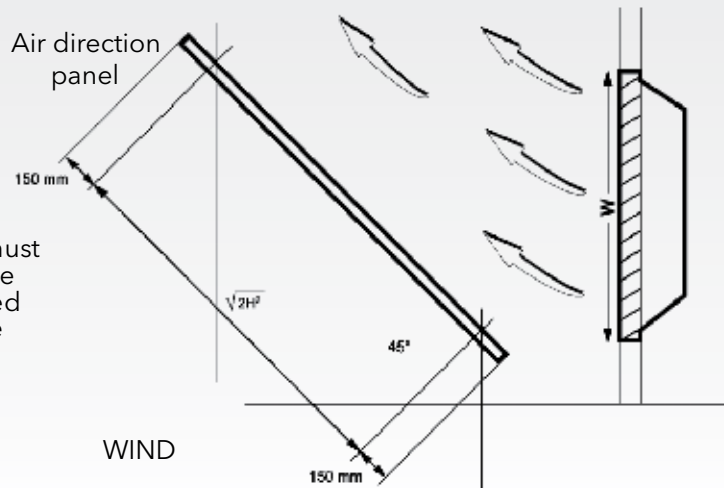

Figure 9
2. Air directing panels can be used as seen on Figure 9.